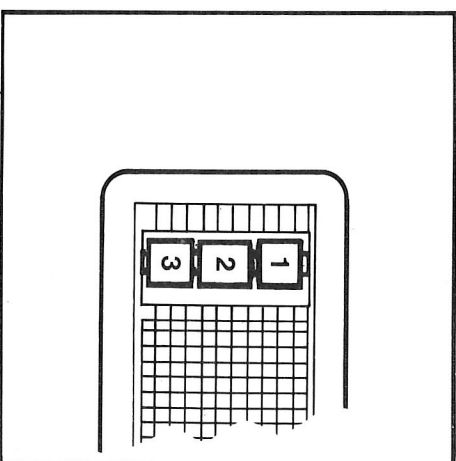

Fig. 10 Interior Light Switch Settings.
34. **Interior Light:** Located above the driver and passenger in the rear header. The light has three settings. See Fig. 10.